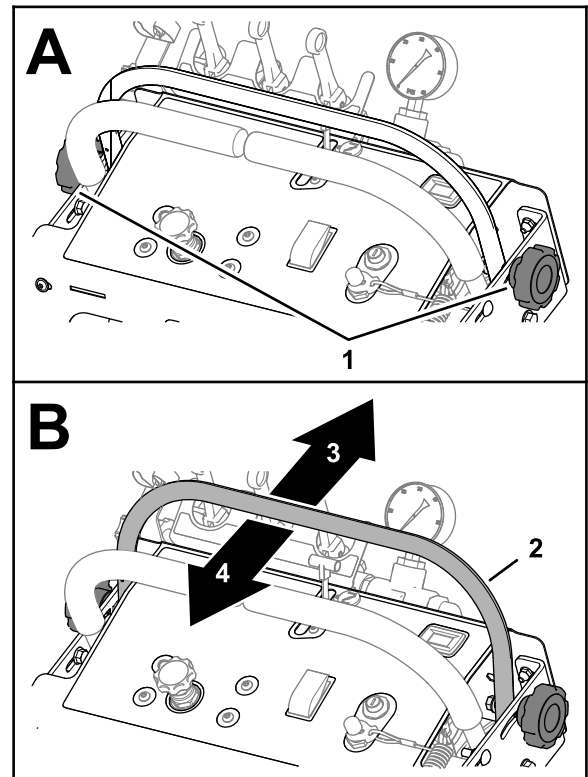

Figure 94
2. Loosen the 2 knobs that secure the speed bar (Figure 94).
- Tighten the 2 knobs that secure the speed bar (Figure 94).